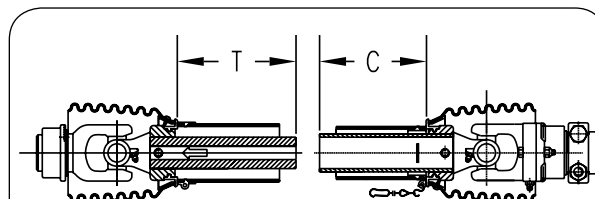

FIG. 4-69
2. Pull apart PTO telescoping shaft ends and measure lengths "T" & "C" (FIG. 4-69)